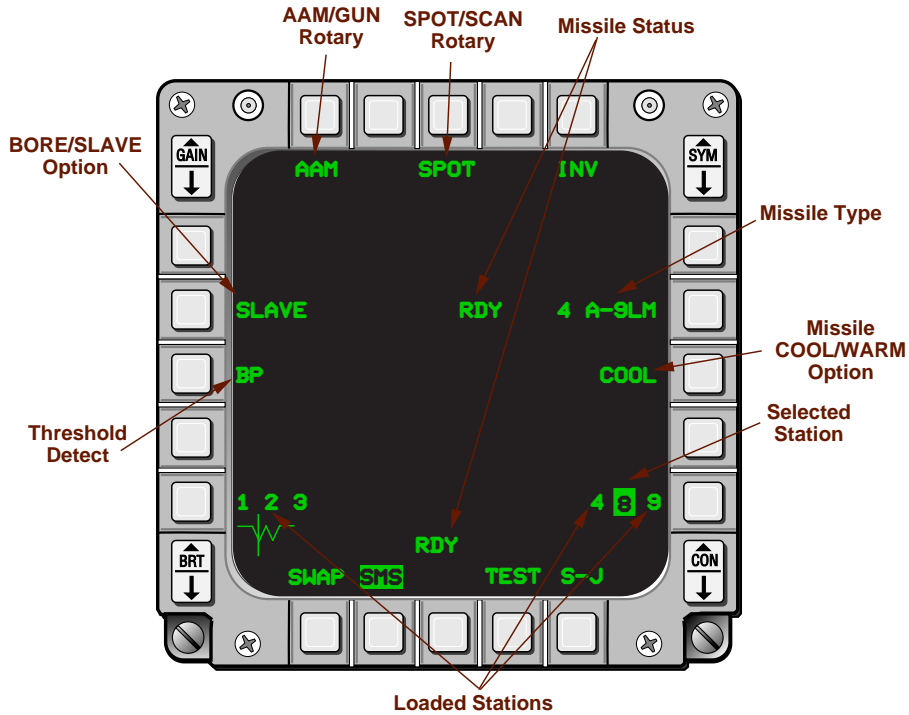

Figure 4-3 AIM-9 SMS Page
**AIM-9 SMS.** Missile parameters are selected on the AIM-9 SMS page (Figure 4-3) as follows: